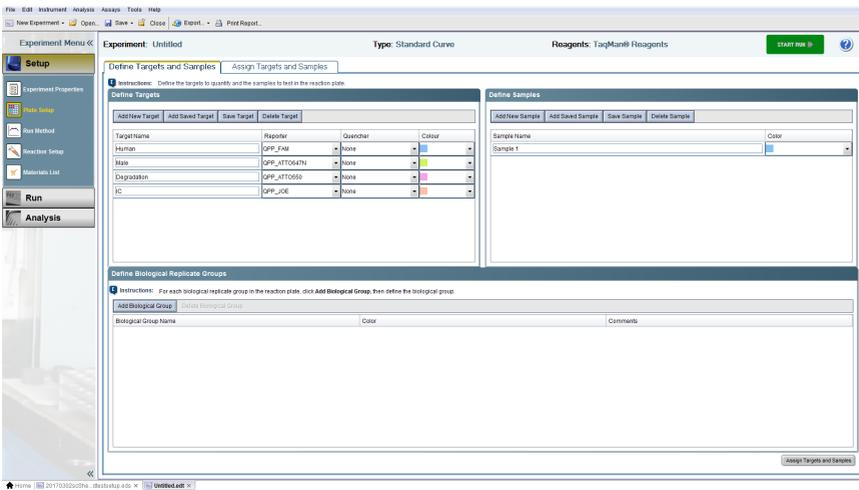

Figure 27. Selecting the correct Target settings.
12. Click **Plate Setup** and define four Targets by clicking twice on **Add New Target**. Select the following settings (Figure 27).